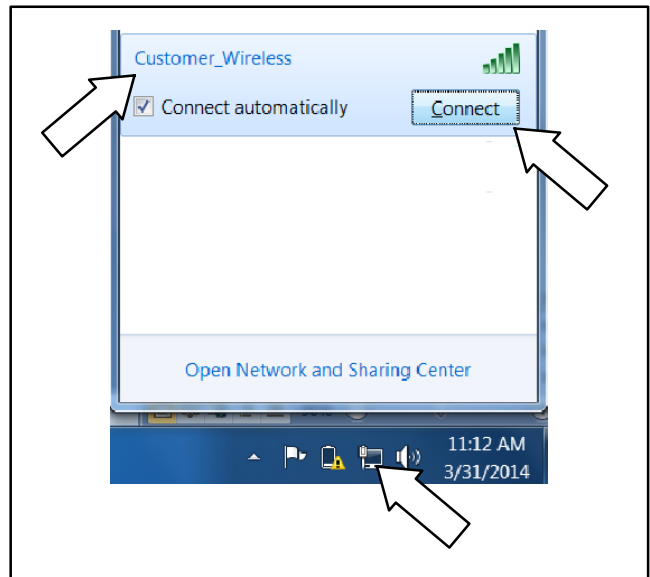

Figure 17 Connect to Customer's Wireless Network
11.1 Click on the network icon in the lower right corner of the screen. See Figure 17.